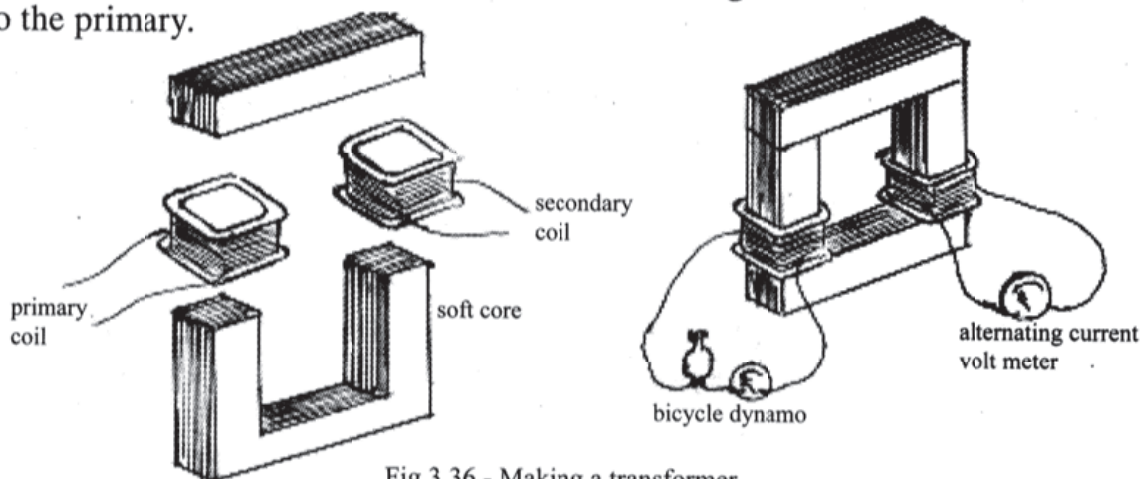

Fig 3.36 - Making a transformer
- Insert the coils into two arms of a U shape soft iron core as shown in the Figure 3.36. Put the I shape soft iron arm above the two arms of the U shape core.